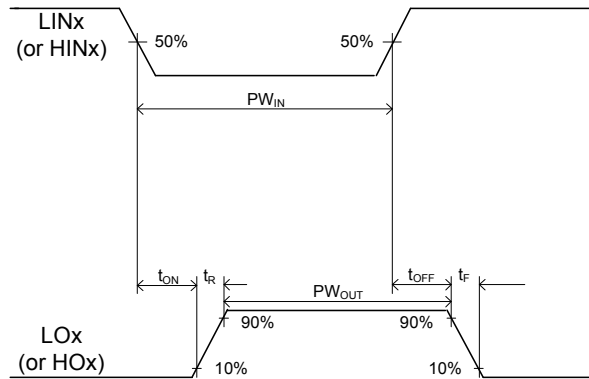

Figure 3: Switching time waveforms (IRS2336(D))
The relationship between the input and output signals of the IRS2336(D) and IRS23364D are illustrated below in Figures 3 and 4. From these figures, we can see the definitions of several timing parameters (i.e.,  $PW_{IN}$ ,  $PW_{OUT}$ ,  $t_{ON}$ ,  $t_{OFF}$ ,  $t_R$ , and  $t_F$ ) associated with this device.